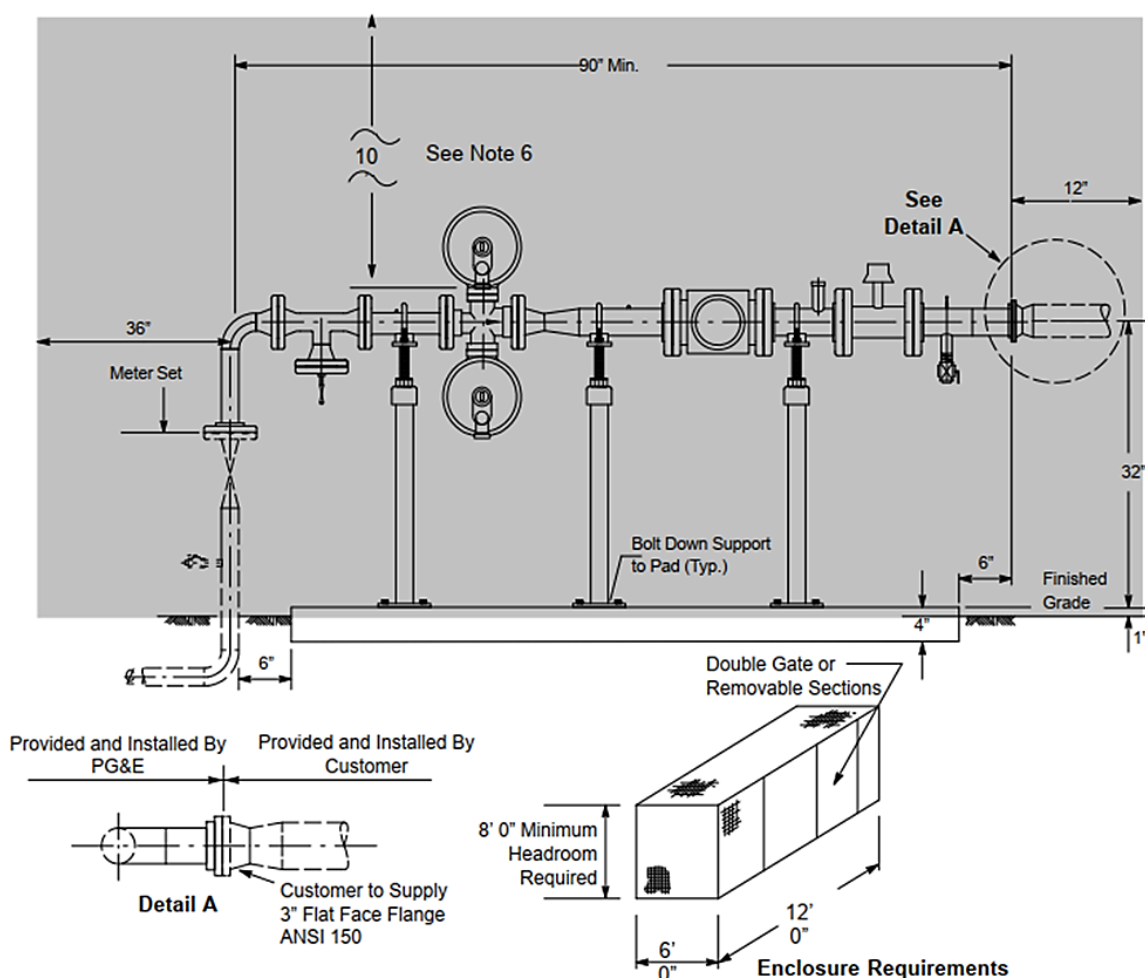

Figure 7. Typical 5M or 7M Rotary Gas Meter Set
- (3) It is preferred that rotary meter sets be away from the building. If the meter set is built next to a building wall, place the vertical leg of the riser and the houseline 20 inches from the wall. This ensures that the meter set components are built in a straight line. The Company may approve the riser and houseline to be farther out from the building wall on a case-by-case basis.
- (4) The finished grade must be below the bury-line marking on the service riser.
- (5) PG&E's weld elbow is optional.
- (6) The meter set must be clear of any sources of ignition or openings into the building. The riser must be a minimum of 36 inches from sources of ignition, from any openings into the building, or any wet facility. This clearance area extends 10 feet above the highest regulator vent, 36 inches below the lowest regulator vent, and 12 inches beyond the farthest PG&E meter-set equipment.
- D. Figure 7 represents a rotary gas meter with 3001 through 7000 scfh at an approved delivery pressure.
E. Notes in reference to Figure 7:
- (1) Customers must provide a 78-inches x 36-inches x 4-inches concrete pad with minimum #4 rebar that is typically 12-inches grid on center.
- (2) Customers must provide a 3-inch ANSI 150 flat-face flange to connect to PG&E facilities.
- (3) It is preferred to have the rotary meter sets away from the building. If the meter set is built next to a building wall, place the vertical leg of the riser and the houseline 20 inches from the wall. This ensures that the meter set components are built in a straight line. The Company may approve the riser and houseline to be farther out from the building wall on a case-by-case basis.